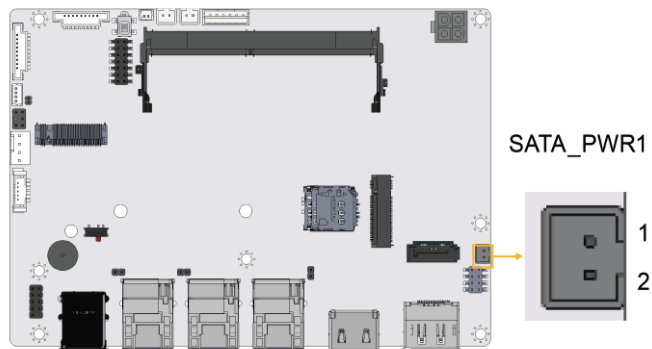

Figure 4-10: SATA Power Connector Location
- CN Location:** See **Figure 4-10**